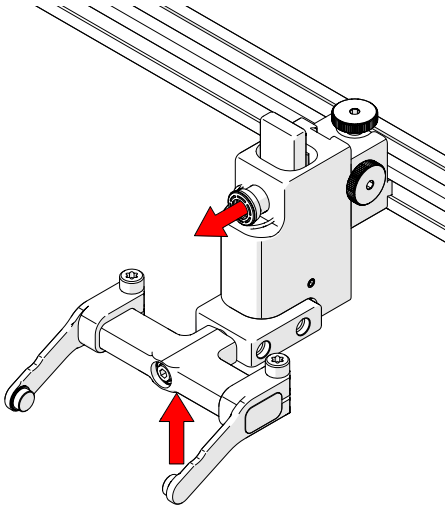
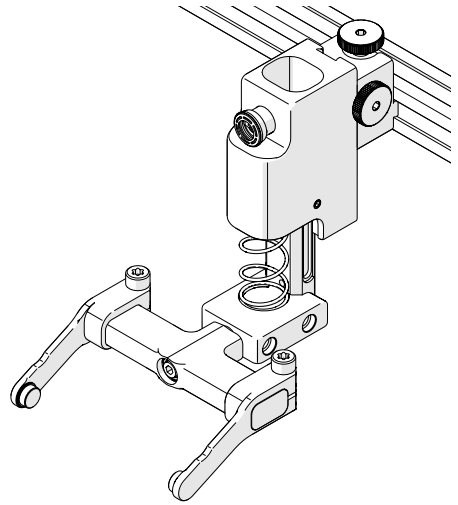

Fig. 133 - Press up and pull latch
Fig. 134 - Lowered towards scan surface
1. Gently lift the 90° heavy duty vertical probe holder and simultaneously pull the latch (*Fig. 133*). This action will unlock the probe holder. Slowly lower the probe holder towards the scan surface (*Fig. 134*).